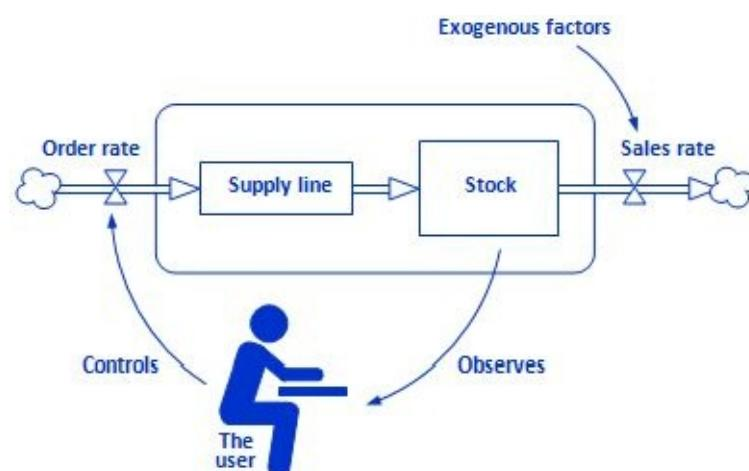

Figure 5.32 Architecture of the stock management game
1. Create the stock and flow diagram, as shown in Figure 5.32.